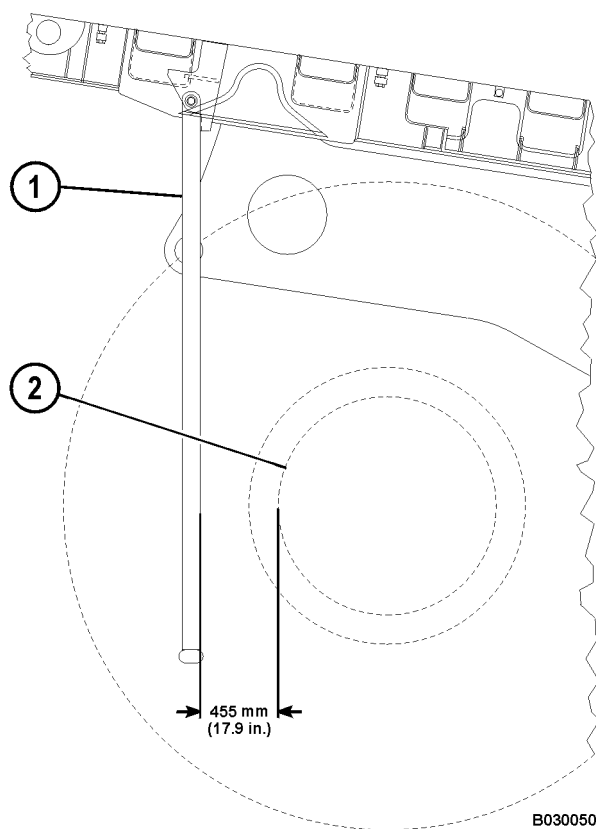
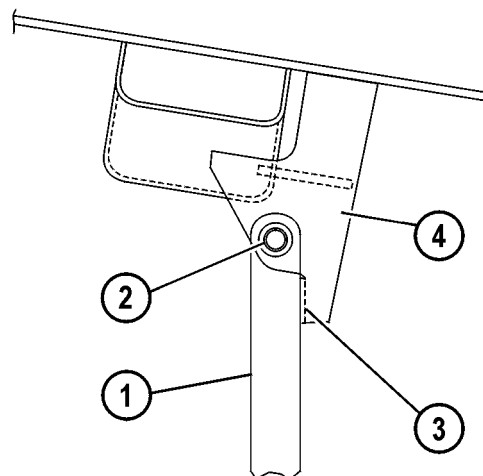

FIGURE 3-7. ROCK EJECTOR INSTALLATION
FIGURE 3-8. ROCK EJECTOR MOUNTING BRACKET
2. With the truck parked on a level surface, rock ejector arm (1, Figure 3-7) should be approximately 454.5 mm (17.9 in.) from wheel housing (2).
NOTE: With the rock ejector arm hanging vertical as shown in Figure 3-7, there must be no gap at stop block (3, Figure 3-8).
4. At each shift change, inspect mounting brackets (4, Figure 3-8), pins (2) and stop blocks (3) for wear and damage. Repair as necessary.